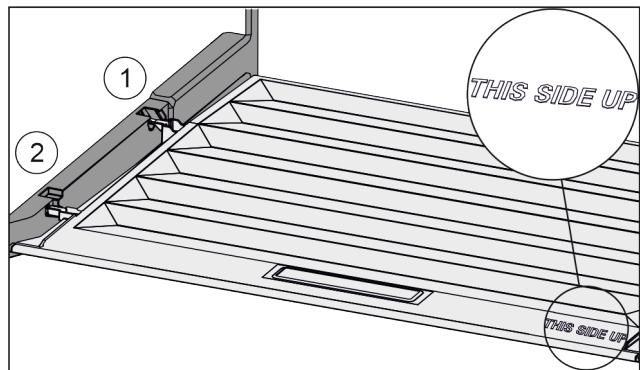

Fig. 139
- ▶ Insert the lip of the cover over the opening of the rear bracket Fig. 139 (1) and click into place Fig. 139 (2).